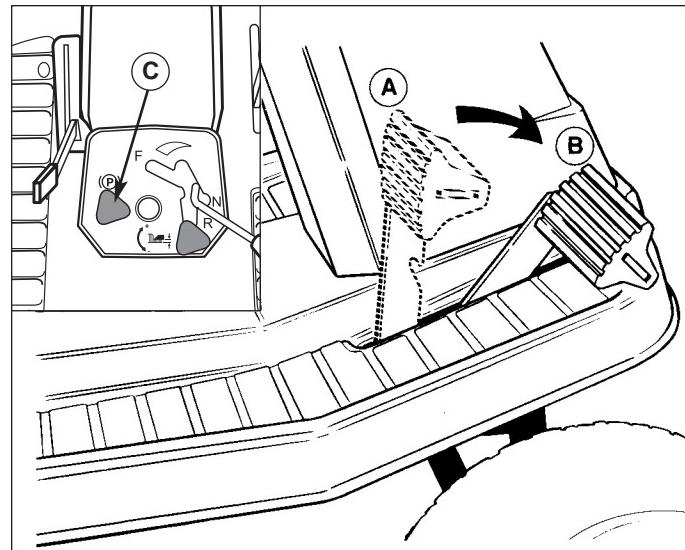

Figure 2. Brake Pedal
- See Figure 2. Depressing the pedal from position A to B disengages the transmission drive and also returns the transmission control lever to neutral (from forward speeds). Fully depressing the pedal to position B applies the rider brake.
- See Figure 2. Parking brake is applied at pedal position B when parking brake control knob (C) is pulled up with pedal fully depressed.